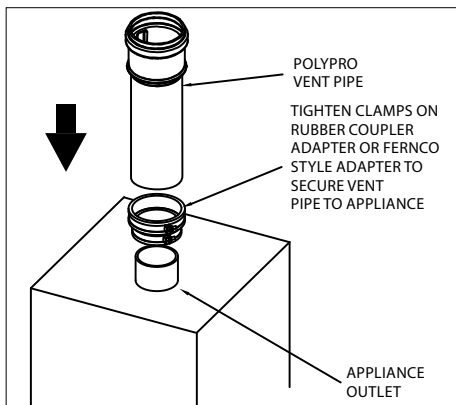

Figure 5
2. If the appliance outlet has a rubber boot or Fernco-style appliance adapter, then the PolyPro vent pipe may attach directly to the appliance (**Fig.5**).